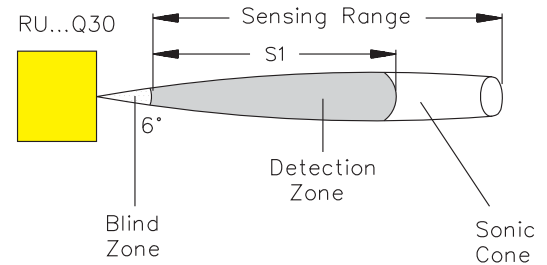

Figure 3
**Q30 and discrete M18** - one potentiometer sets the far limit of the detection zone. The near limit is not adjustable, and is determined by the blind zone. This allows for background suppression only (Figure 3).